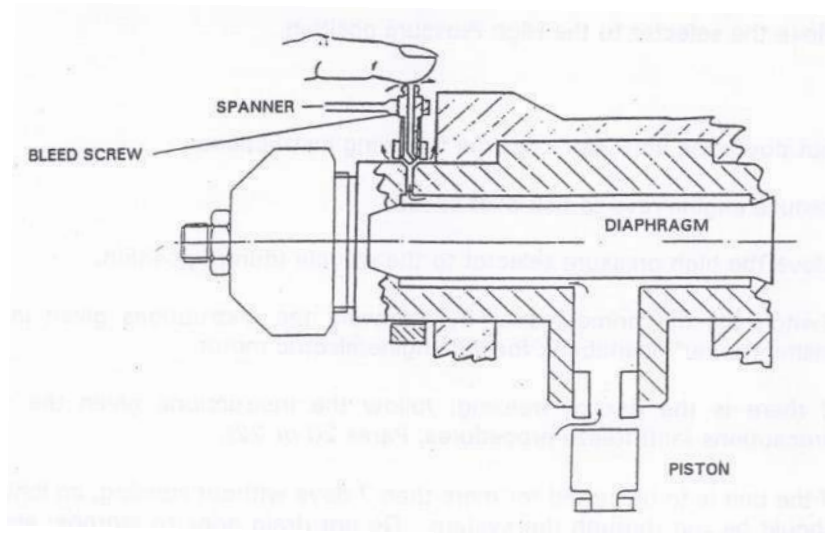

Fig 3.1 Bleeding the Pump
(3) With reference to Fig 3.1, put a finger on top of an oil bleed screw on a lower barrel and open the screw slowly using a suitable spanner. When air-free oil flows, tighten the bleed screw firmly.